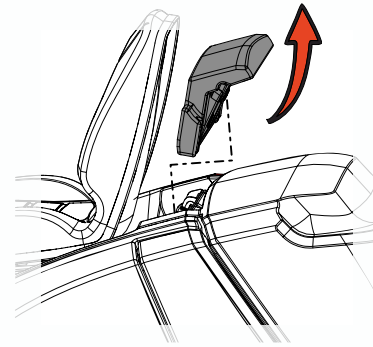

Fig. 13
- Remove the frame cover (by pushing, simply release the Snaploc connection Fig. 13)